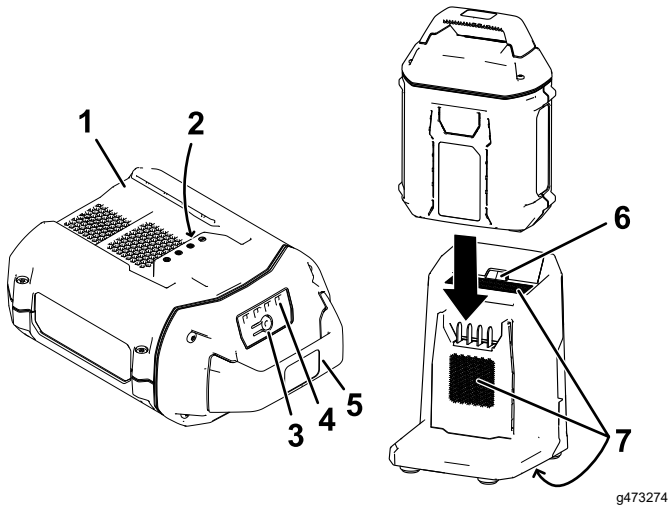

Figure 11
2. Line up the cavity in the battery pack (Figure 11) with the tongue on the charger.
3. Slide the battery pack into the charger until it is fully seated (Figure 11).